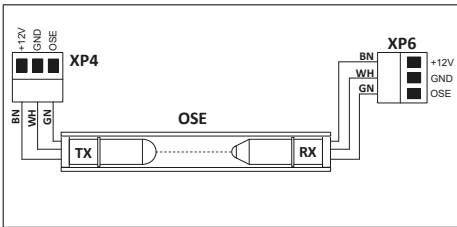

Figure 6 – Optoelectronic safety edge (OSE)
- DIP 1** OFF – OSE optoelectronic safety edge (Figure 6, 8, 9)
- DIP 2** OFF – OSE single-beam safety edge (Figure 6, 8)